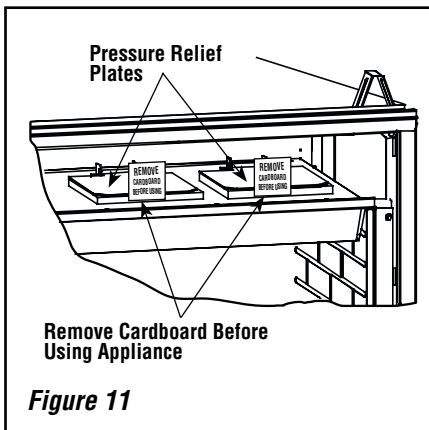

Figure 11
3. Remove the top louvered panel and locate the pressure relief plates (see **Figure 11**).